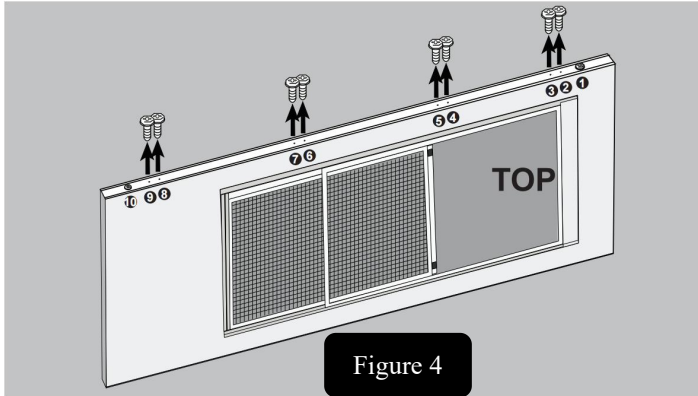

Figure 4
**Step 1:** Remove screws 2-8 from the door. (Figure 4)